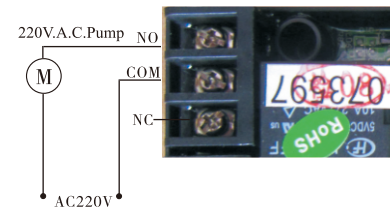
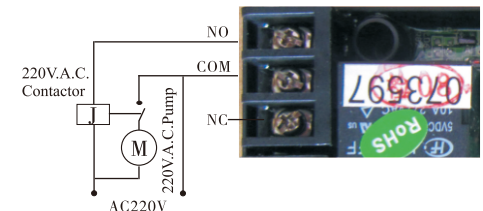

Figure 3-6 Wiring of Booster pump on Inlet
Figure 3-7 Wiring of Booster pump on Inlet
**Instruction:** If inlet water pressure is less than 0.15MPa, which makes backwash or brine drawing difficult, a booster pump is suggested to be installed on inlet. Set Control mode as b-01. When system in regeneration cycle, booster pump opens, the wiring refers to Figure 3-6. If the booster pump current is bigger than 5A, system need to install a contactor, the wiring refers to Figure 3-7.